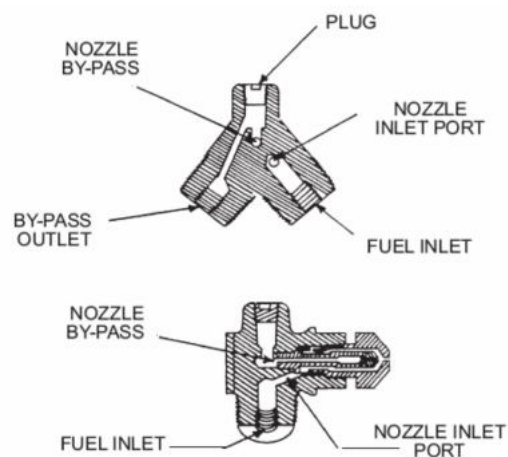

Figure 4-6 Fuel Atomizing Head
- 4.24** The thermostat is a 12 volt electronic controller that supplies the voltage to the temperature control valve. (Figure4-6)